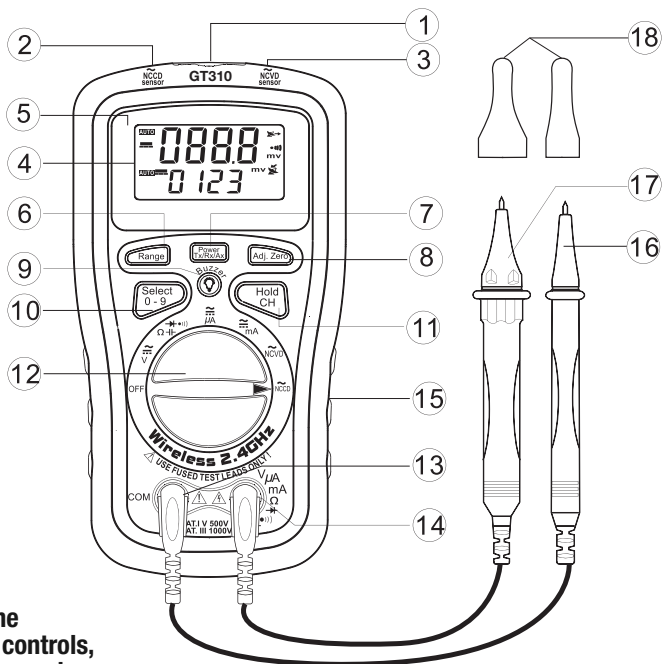

Fig. 1. The GT310's controls, indicators and connectors
Fig. 1 shows the labels and positions of the controls, indicators and connectors on the front and top of the GT310. Familiarize yourself with their functions, as explained below, before moving on to the Setup Instructions and Operating Instructions.
- The meter is equipped with an Auto Power Off (APO) function that is triggered by 15 minutes with no input. It cannot be disabled. To “wake up” the meter in the same measurement state (but not transmission/reception state) it was in when the APO function activated, briefly press the **Power/Tx/Rx/Ax** button (Callout 7 of Fig. 1). You need not turn the rotary dial to power the meter on again.